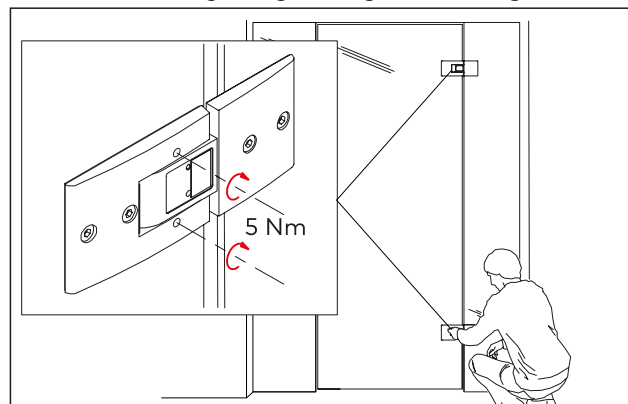

Fig. 66 Position of the screws
3. Tighten all screws (2 x upper hinge and 2 x lower hinge). Tightening is 5 Nm (Fig. 66)!